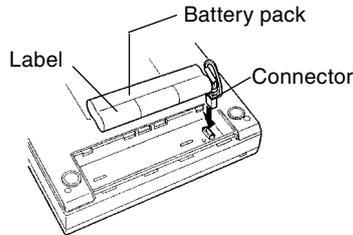

Figure 2
- ② Connect the battery pack as shown in Figure 2, turn it so the label is visible, insert it into the printer, and close the battery cover. Close the battery cover.